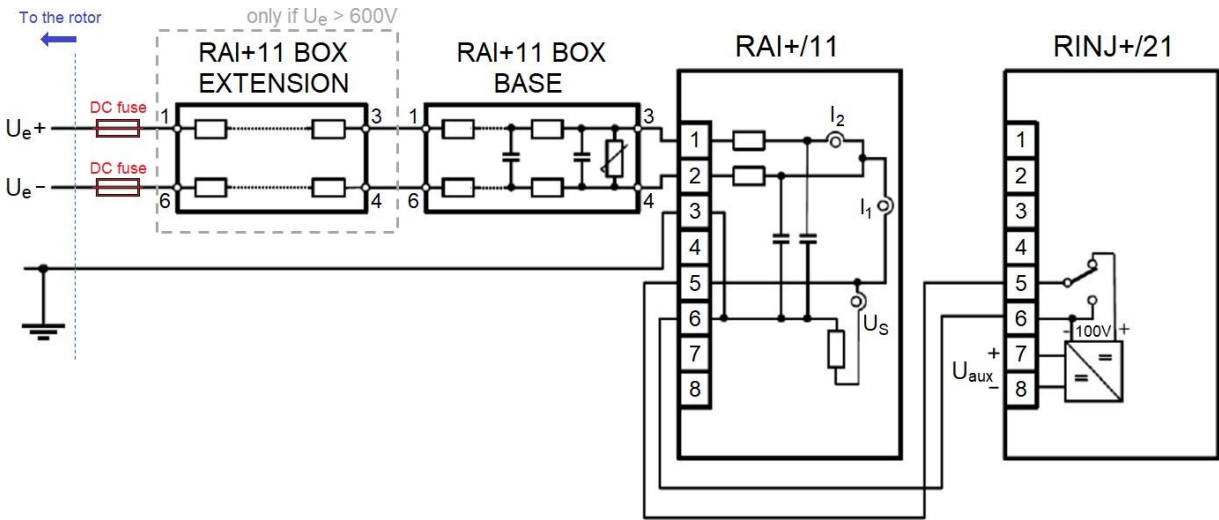

Figure 1-2 Wiring for ConnType1 mode (connecting to two points)
The coupling units include resistance networks in boxes to be mounted externally on din rail (see Figure 1-2 below). In the first box (BASE) the network is constructed of resistors, capacitive filter elements, and voltage limiting circuit. This unit is applied in all cases. The resulting resistance for both sides is 35 k Ω which is added to the 5 k Ω inside the protection unit, resulting 40 k Ω coupling resistance. This unit can be applied alone up to 600 V excitation voltage.
- **ConnType1** if *both connection points* of the excitation circuit are available (Figure 1-2)
The injector and measuring units **are to be connected to the excitation circuit via fuses**, if the device connects to both the negative and positive brush of the rotor (*ConnType1*, see Figure 1-2). The applied fuse should be prepared for the special purpose: it should be capable of interrupting the high excitation DC current. A representative value at $U_n = 1000$ V is $I_n = 2000$ A.